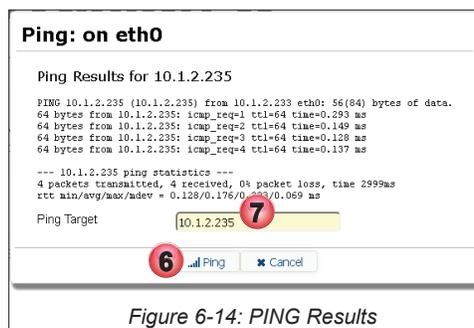

Figure 6-14: PING Results
6. The ping results are shown, Figure 6-14. To continue with another ping to this address, click **Ping** again.